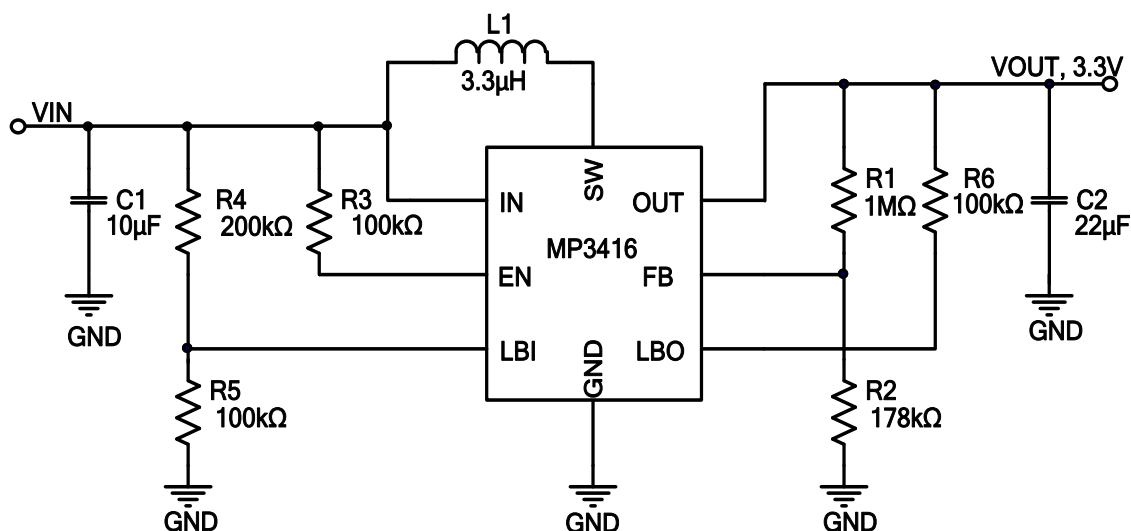

Figure 5: Typical Schematic for 3.3V Output
6) Tested under a 0.79A switching current limit. The test schematic is the same as Figure 5 when V_{OUT} is 3.3V and the same as Figure 6 when V_{OUT} is 5V.
The typical application circuit for V_{OUT} = 3.3V in Figure 5 shows the detailed application schematic and is the basis for the typical performance waveforms. For more detailed device applications, please refer to the related evaluation board datasheets.